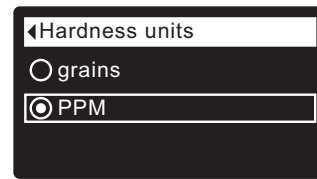

FIG. 67
1. From any of the rolling status screens, press the SELECT (O) button to display the **Main menu**.
3. Press the SELECT (O) button to display the User preferences menu.
5. Press the SELECT (O) button to display the Hardness units menu (See Figure 67).
6. If the desired hardness unit already has a dot next to it (See Figure 67), go to Step 7. Otherwise, press the DOWN (▼) or UP (▲) buttons to scroll to the other hardness unit, then press SELECT (O) to choose it.
7. Press the SELECT (O) button. The display will go back to the User preferences menu.